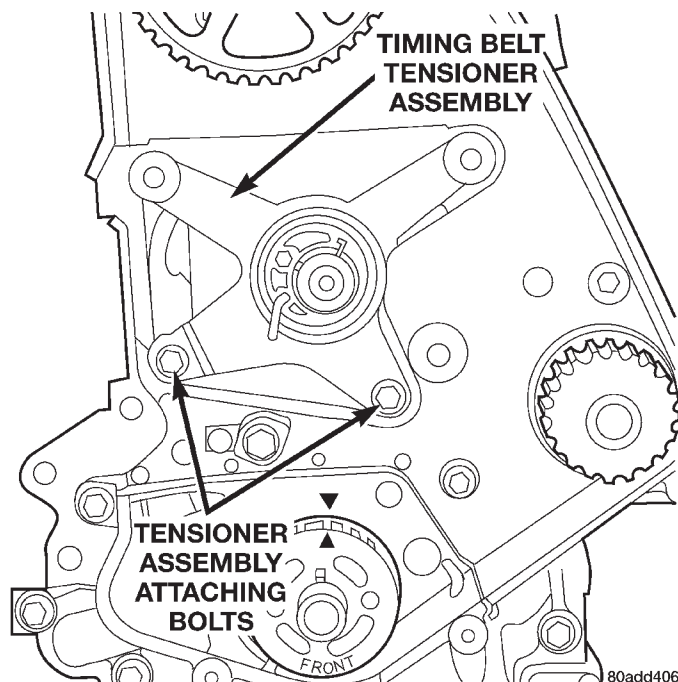

Fig. 65 Timing Belt Tensioner Assembly—Removal/Installation
- (1) Remove timing belt. Refer to procedure outlined in this section.
- (2) Remove tensioner assembly attaching bolts (Fig. 65).
- (3) Remove tensioner assembly.